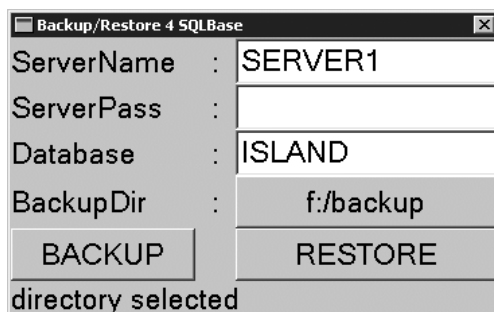

Fig. 4 Window for Backup/Restore 4 SQL Base
3. Make entries as shown in Fig. 4 and click on **BACKUP**.